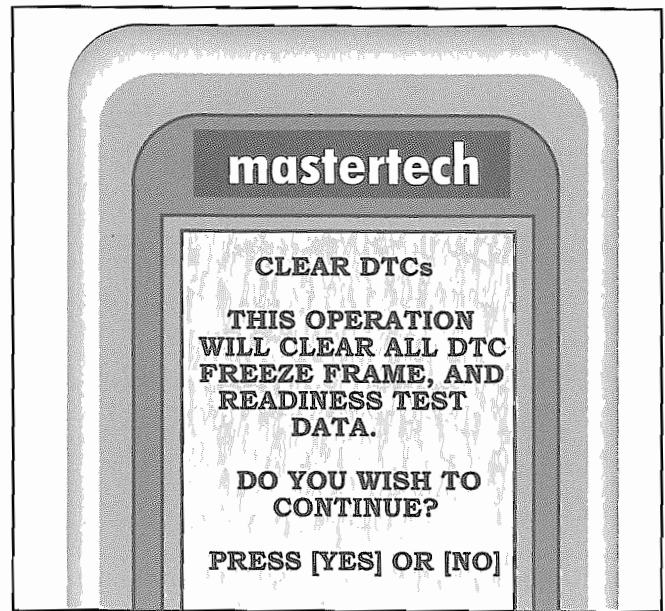

Fig. 4-9. Erasing DTCs with the scan tool also erases valuable diagnostic information stored with the DTC.
- **When you erase DTCs, you erase Freeze Frame (Fig. 4-9).** Make sure you've recorded all Freeze Frame data before erasing DTCs, or the judge may give you 90 days for destroying evidence that could help you apprehend and convict the reason the MIL came on in the first place.